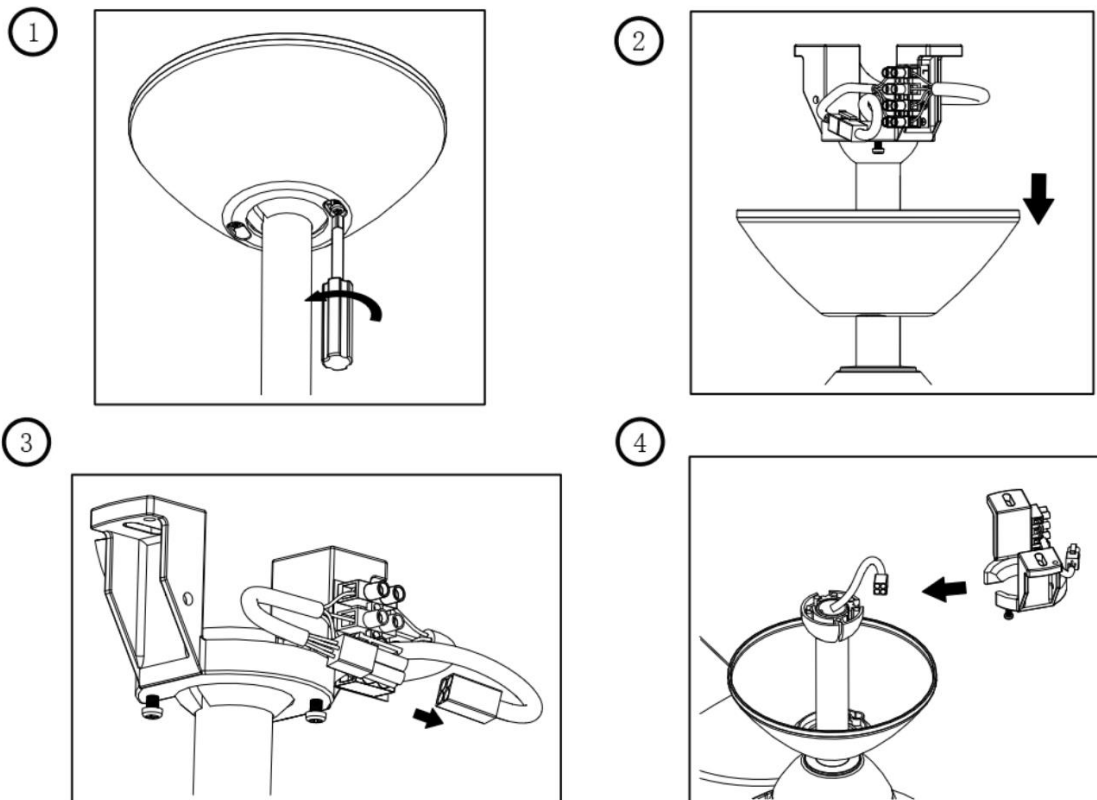

Fig. 8.1
1. Uninstall the ball joint, canopy, canopy bottom cover & the down rod joint cover from the fan assembly; (Figure 8.1, 8.2, 8.3)